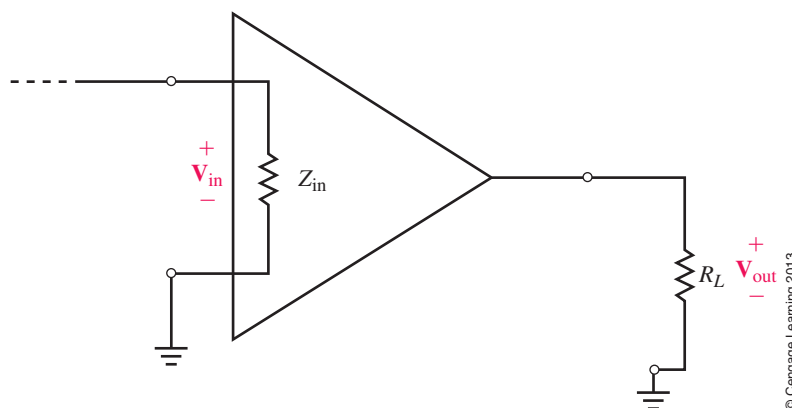

FIGURE 22–47
- Refer to the amplifier shown in Figure 22–47. Determine the power gain both as a ratio and in decibels for the following power values:
- If the amplifier of Figure 22–47 has $Z_{\text{in}} = 600\text{ }\Omega$ and $R_L = 2\text{ k}\Omega$, find P_{in} , P_{out} , and $A_P(\text{dB})$ for the following voltage levels:
3. The amplifier of Figure 22–47 has $Z_{in} = 2 \text{ k}\Omega$ and $R_L = 10 \text{ }\Omega$. Find the voltage gain and power gain both as a ratio and in dB for the following conditions:
4. The amplifier of Figure 22–47 has an input voltage of $V_{in} = 2 \text{ mV}$ and an output power of $P_{out} = 200 \text{ mW}$. Find the voltage gain and power gain both as a ratio and in dB for the following conditions:
5. The amplifier of Figure 22–47 has an input impedance of $5 \text{ k}\Omega$ and a load resistance of $250 \text{ }\Omega$. If the power gain of the amplifier is 35 dB , and the input voltage is 250 mV , find P_{in} , P_{out} , V_{out} , A_v , and $A_v(\text{dB})$.